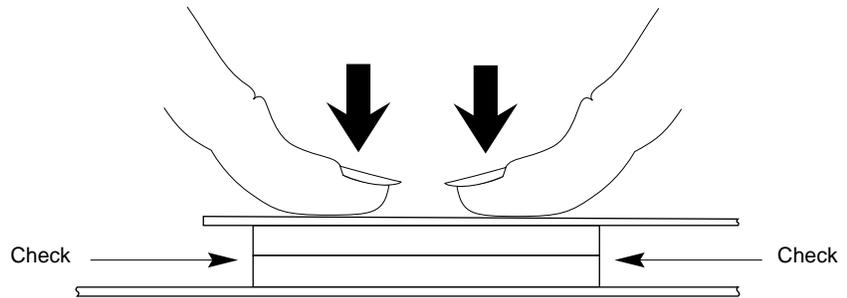

Figure 2-4 Seating the Z Board's Connectors
6. Press to seat the Z board's connectors into the system board's connectors, as shown in Figure 2-4.
- Look underneath the Z board to see the two 96-pin connectors. Due to the other components on the board, it may be difficult to see the connectors. The male and female connectors must be touching along the entire shared surface, as shown in Figure 2-4. Be sure to check each end of the connector.